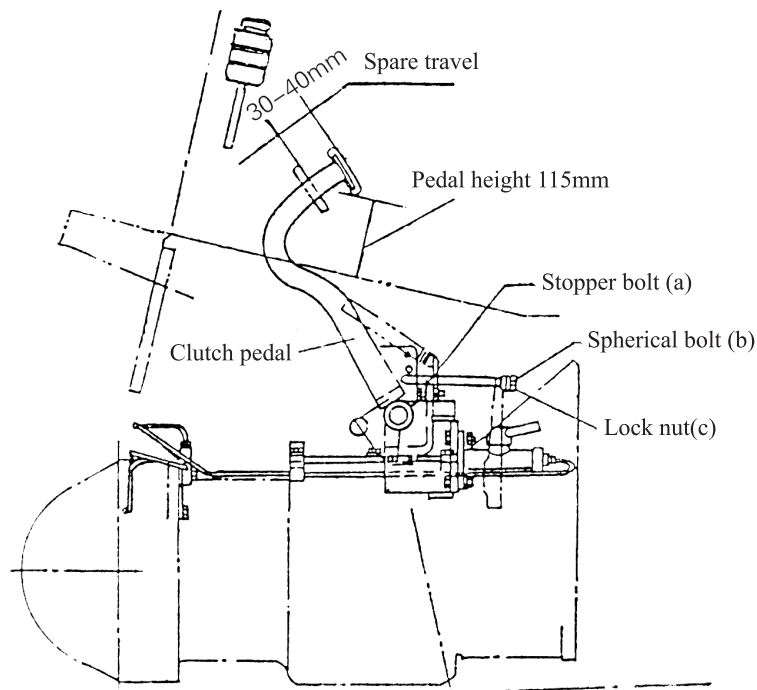

Fig.2-2 Clutch pedal
(6) After making certain that the driving shaft end has entered the middle bearing of the flywheel, tighten the slide lead screw to the torque of 107-119N.m (10.9-12.1kgm).
(7) Install the pressure plate case on the flywheel.
(8) Press the clutch pedal and remove the three spacers.
(9) Adjust the travel of the clutch pedal. (See Fig.2-2)
2.4 Adjustment of Clutch Pedal Travel (See Fig.2-2)